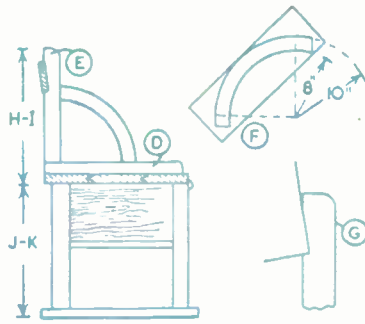

Fig. 2
Fig. 2 shows a side view of the seat. For the seat, which also acts as a lid to the
horizontal members (D), one for each end of the lid. To these the vertical members (E) are fixed with a simple halved joint. Fix with waterproof glue and nails. An important point here is the length of parts (E), which can only be given approximately as the thickness of boards does not remain constant. For instance, 1in. thick boards, bought already planed, will lose substance and prove to be about $\frac{3}{4}$ in. The length of parts (E) should be such as to make the height of (H-I), equal to that of (J-K), in Fig. 2. This is necessary if the seat, when swung over, is to make a level table top.
At each end an arm rest is added. This, as shown in Fig. 2, is made quarter-circular in shape. The detail (F) shows how these can be marked out on a piece of 1in. board, with the radius given. Try for fitting, and allow enough each end to screw to parts (D) and (E). The portions to be screwed should be reduced to half thickness.